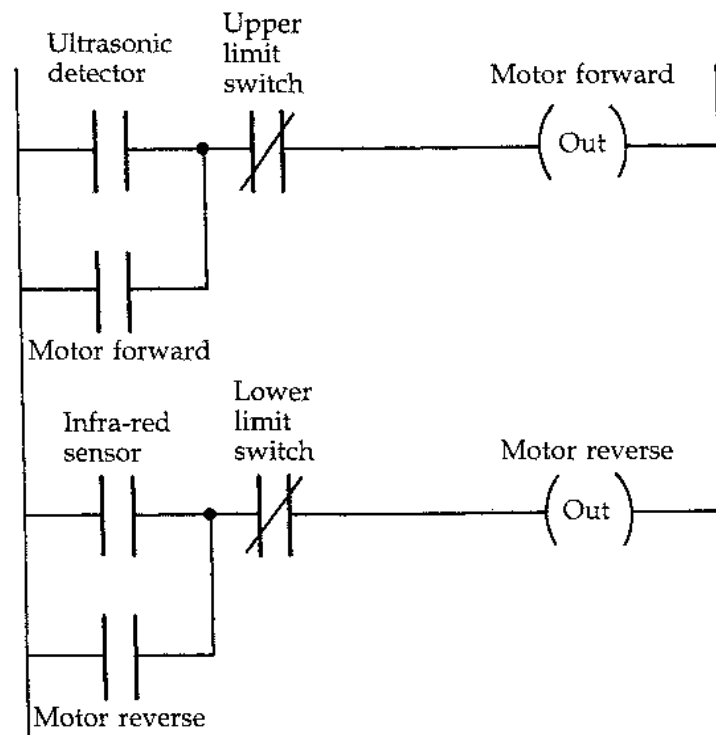

Figure Q13B
- (d) A basic ladder diagram program for use with the PLC to control the opening/closing operation is illustrated in Figure Q13B. Describe the operation of this program in relation to the application. 6